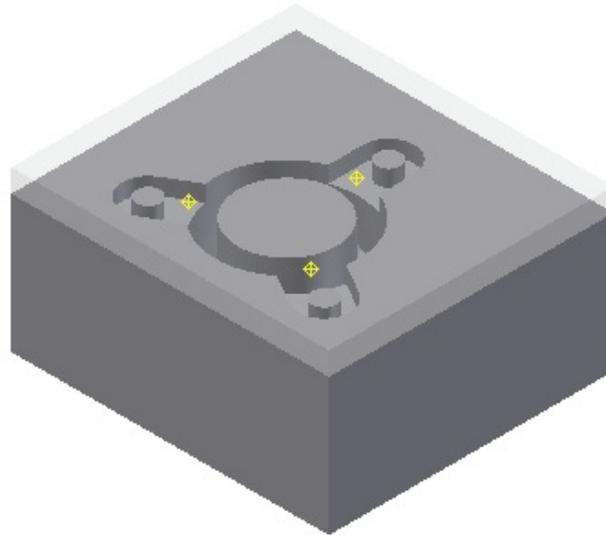

Figure 19-79 The core and cavity generated
- e. Generate core and cavity, refer to Figure 19-79 and create runner, refer to Figure 19-81.
2. Choose the **OK** button from the dialog box; the core and cavity are generated, as shown in Figure 19-79.